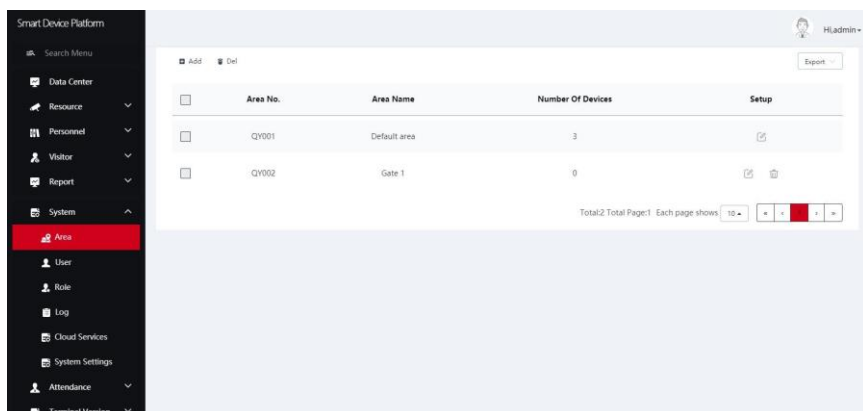

Figure 5-65
Step 1: In the smart device platform interface, click "System→Area" to enter the area management interface, as shown in Figure 5-65 below.